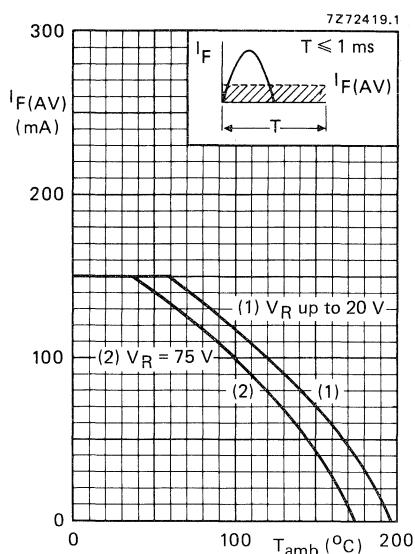

Fig. 6 Maximum permissible average rectified forward current versus ambient temperature.
** For sinusoidal operation see Fig. 6. For pulse operation see Figs 4 and 5.